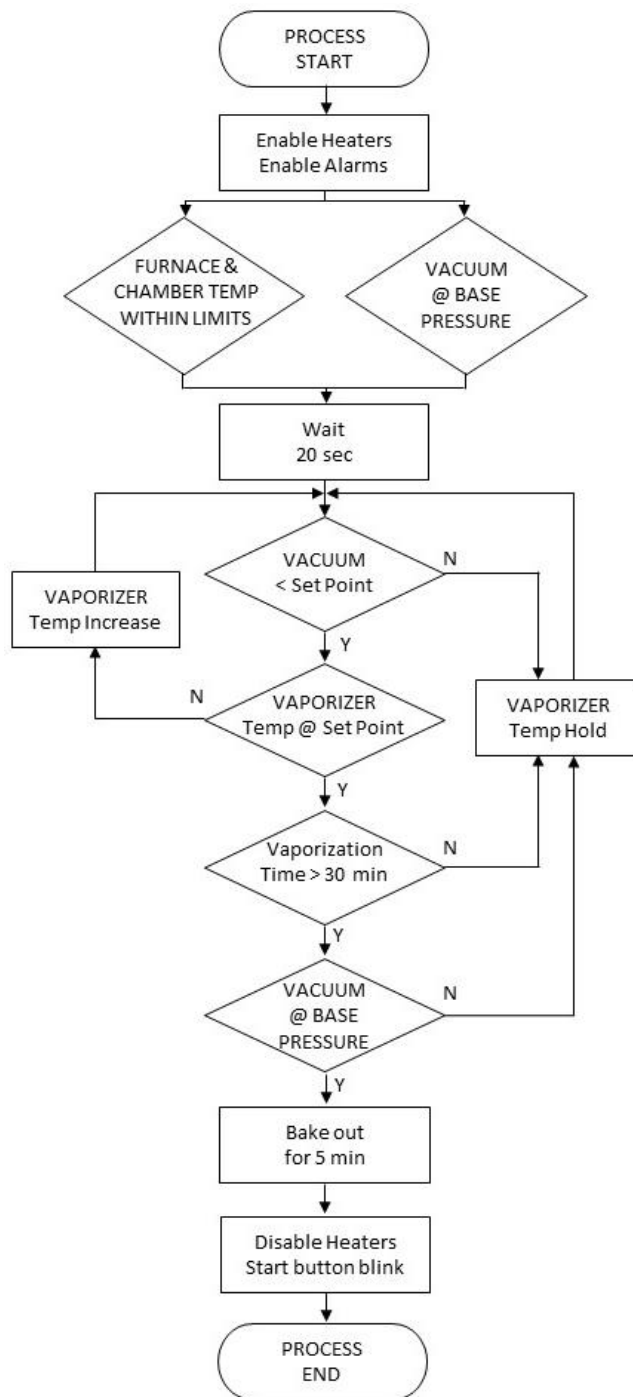

Figure 1. Process Flow Overview
19. The process typically takes around 4 hours. Figure 1 explains process flow overview.